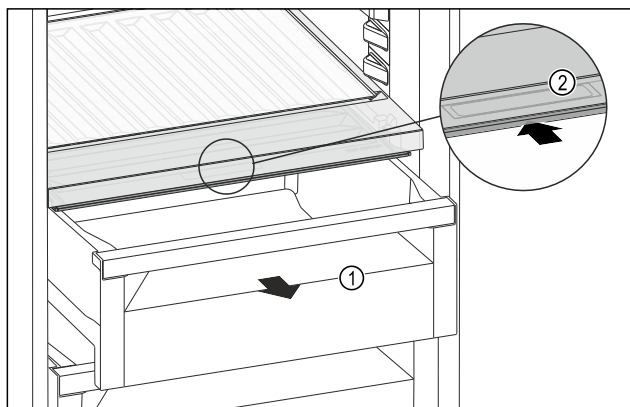

Fig. 98
- ▶ Pull out the drawer Fig. 98 (1).
- ▶ Grasp the recessed grip Fig. 98 (2) on the compartment lid and push the compartment lid backwards at the same time.